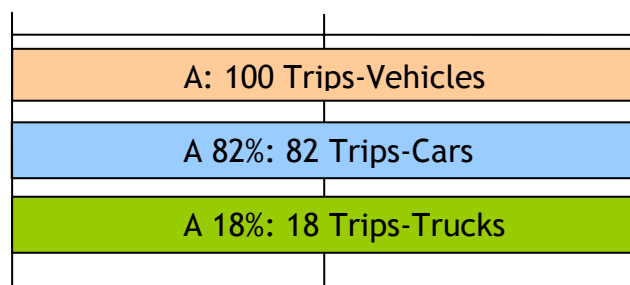

Figure 154 Split of trips in two matrices
- *Split*: Creates N new matrices dividing the number of trips among the new matrices (see Figure 154). This command doesn't modify the original matrix.